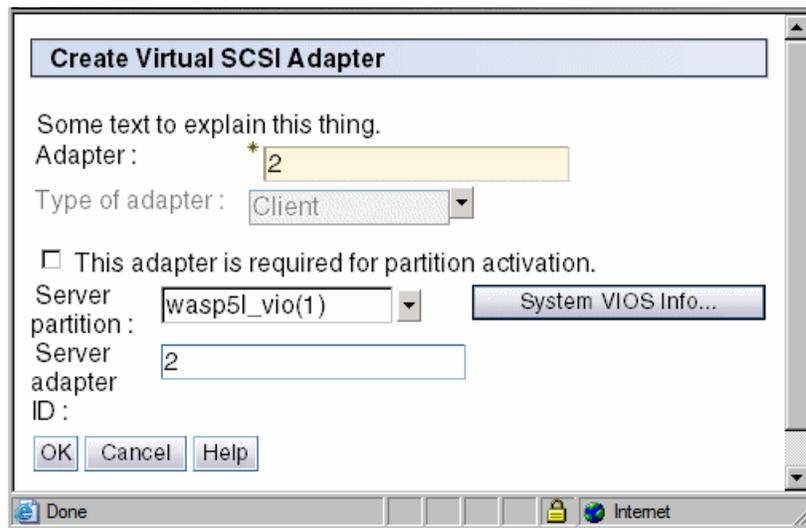

Figure 7-16 Create virtual SCSI adapter
2. You can specify your server partition, get System VIOS info, and specify a tag for adapter identification, as shown in Figure 7-16. When you have entered all of the data, select **OK**.